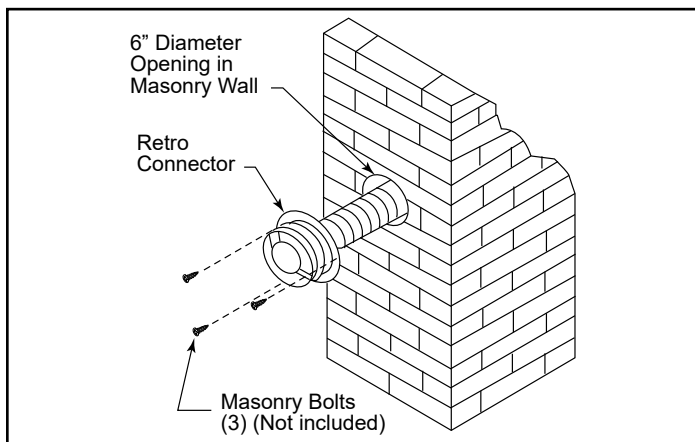

Figure 3.51
8. Attach the flex to the retro connector. Use three sheet metal screws to attach the flex liner to the connector, Figure 3.51. Mount the retro connector to the masonry wall using masonry bolts. Re-drill larger holes on connector as needed. Be careful to insure that the connector is centered in the opening and the mounting holes line up with the masonry wall.